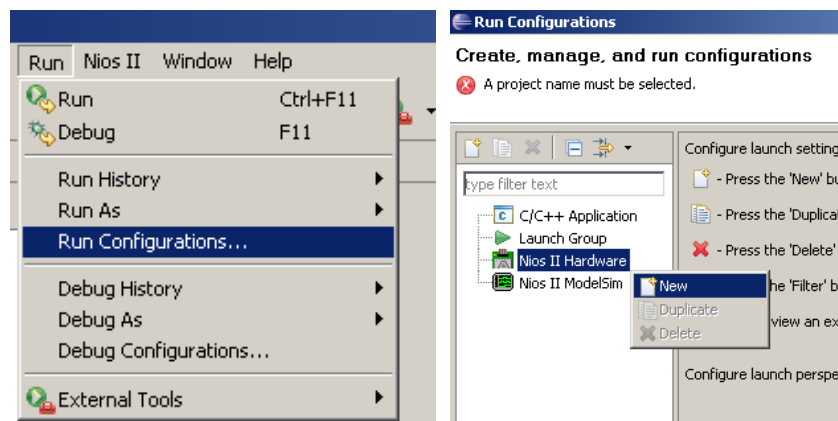

Figure 3.2: Running on the Nios II hardware
2. To run the application, click “**Run**” from the menu bar and select “**Run Configurations**”. Right-click on “**Nios II Hardware**” and select “**New**” as shown in Figure 3.2.